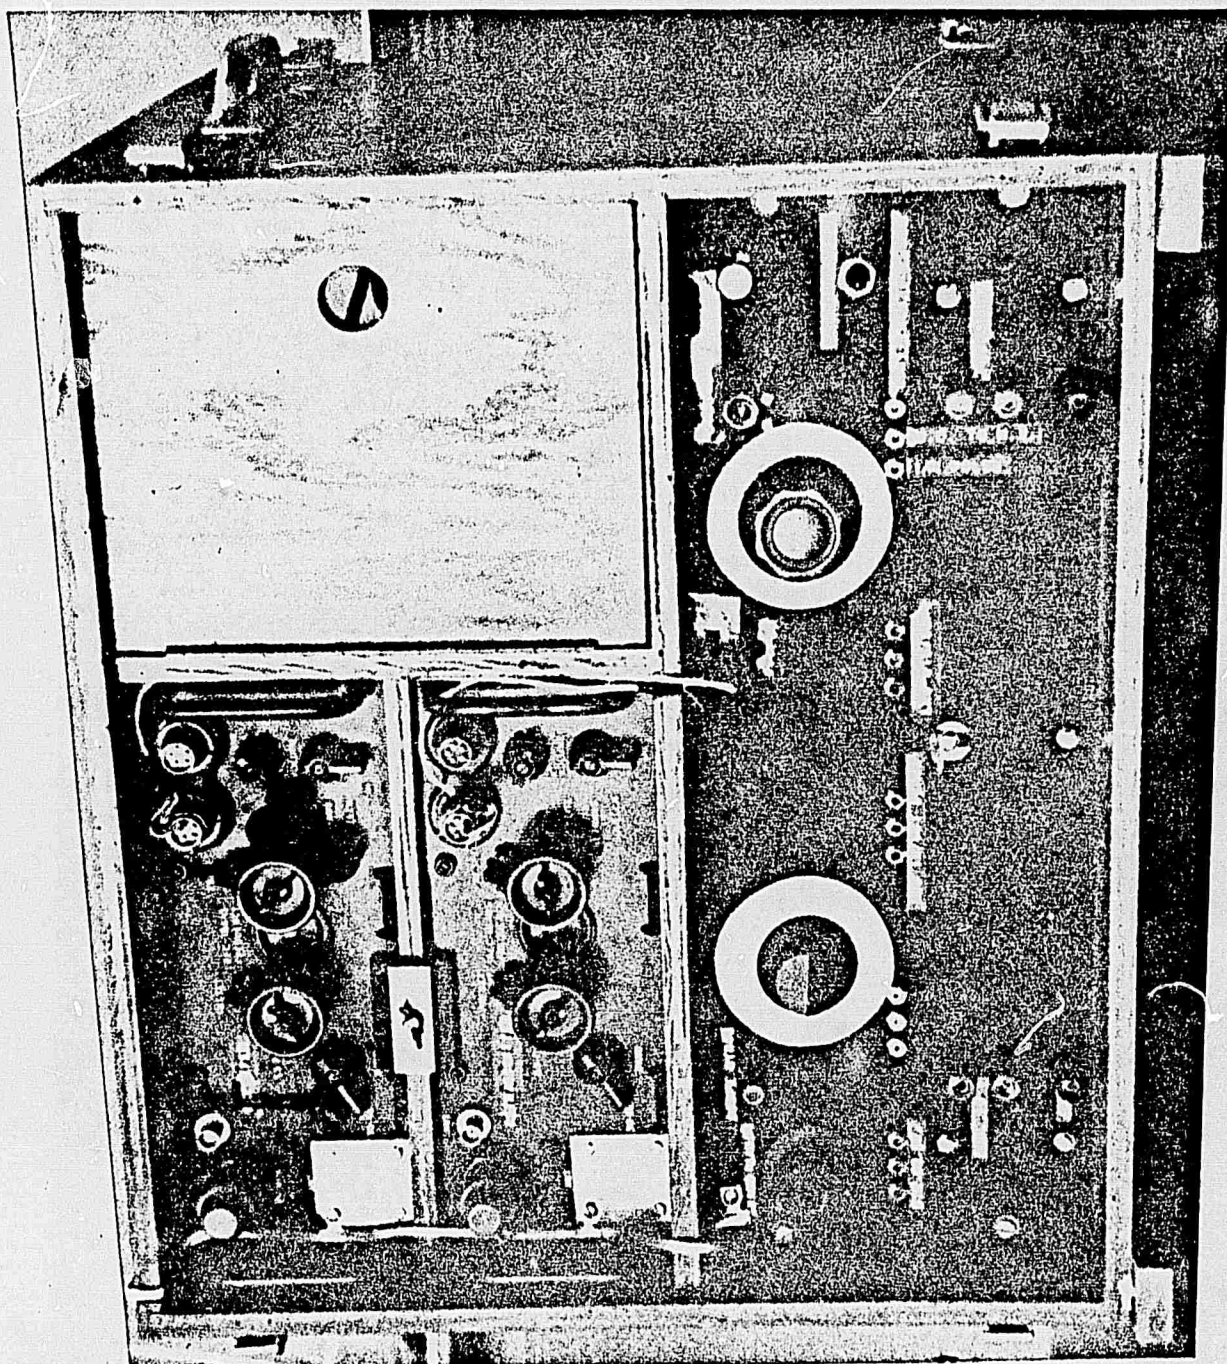

Figure 2. Single-Frequency Repeater, Front View
- Receiver, Retransmitter, Antenna, and Electronic Control Circuits, all packaged in a portable wooden cabinet, Figs. 2, 3, and 4.